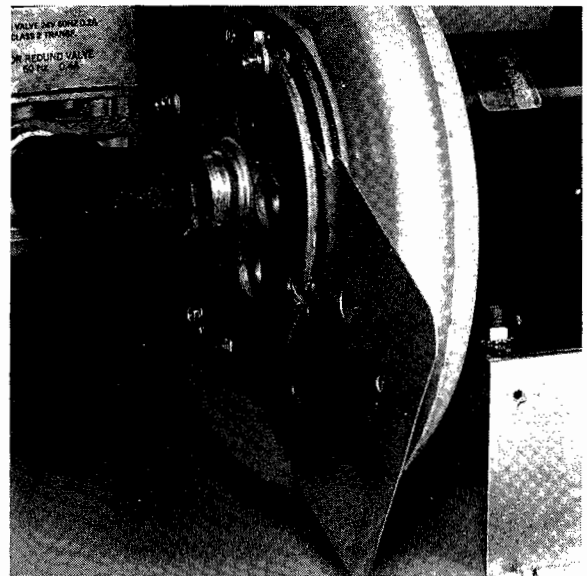

FIGURE 33
3. Pull gas/air orifice plate out. (Fig. 33)